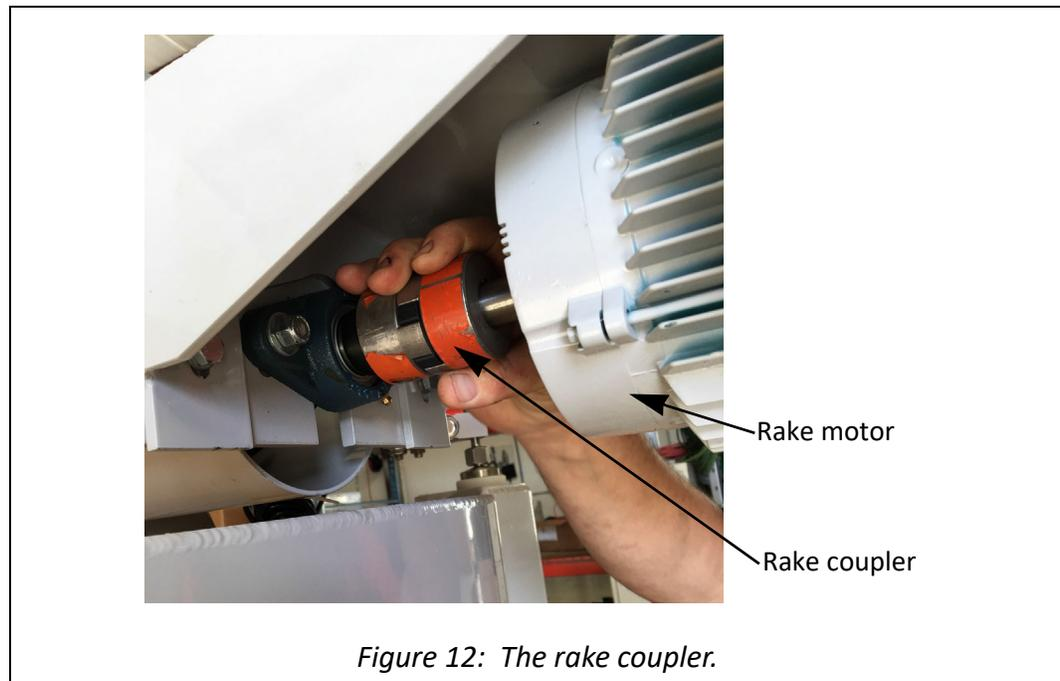

Figure 12: The rake coupler.
4. Manually rotate the rake coupler (see Figure 12) back and forth to dislodge fibers from the rake. The fibers will fall through the funnel and into the opening of the blower. Rotate the rake coupler until no more fibers fall.